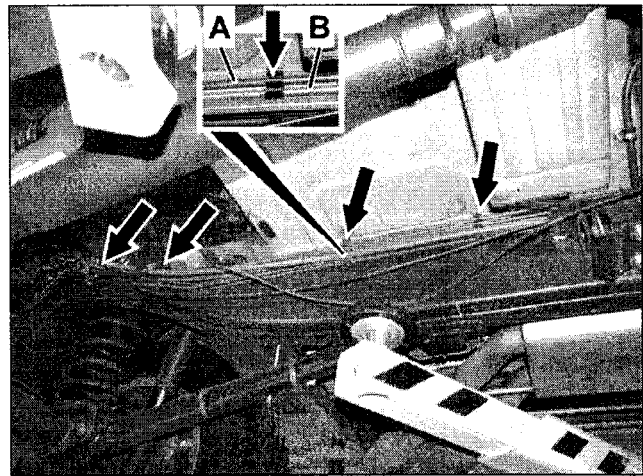

Figure 7 (not all retaining clips are shown)
8. Route new fuel return line (B, Figure 7) along fuel line retaining clips (arrows) in reverse order of removal.